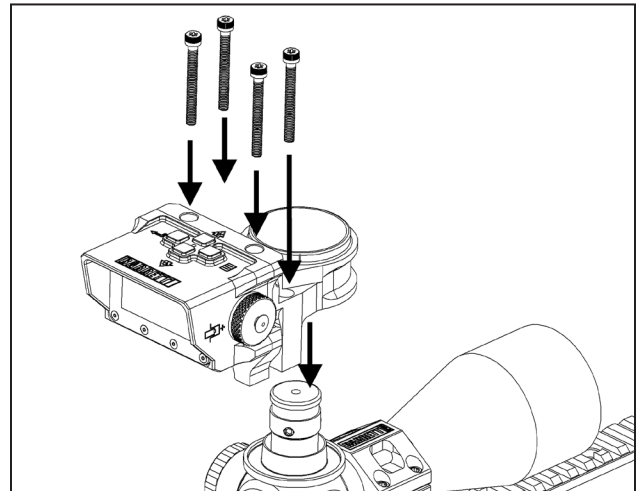

Figure 6.
- Place the BORS unit on top of the rear scope ring. Start the four BORS mount screws (T-25 Torx® wrench), but do not tighten them. Figure 6.